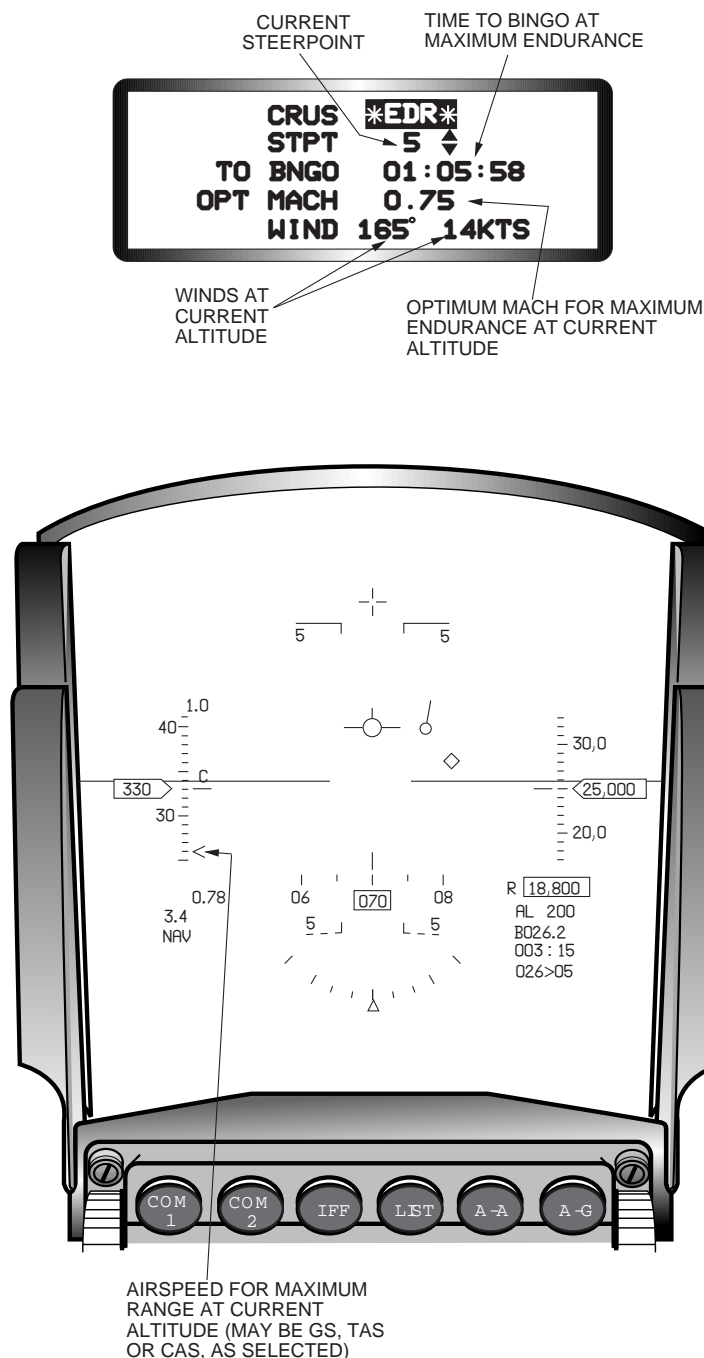

Figure 2-17 Cruise Endurance Option
**Endurance.** The EDR option provides the pilot with airspeed guidance to fly at maximum endurance at the current altitude (Figure 2-17). The maximum endurance mach number, the winds at the current altitude, and the estimated time until bingo fuel at the current fuel consumption are displayed on the CURS EDR DED page. When the EDR option mode is selected, an airspeed caret is displayed on the HUD indicating the airspeed to fly to achieve maximum endurance at the current altitude.